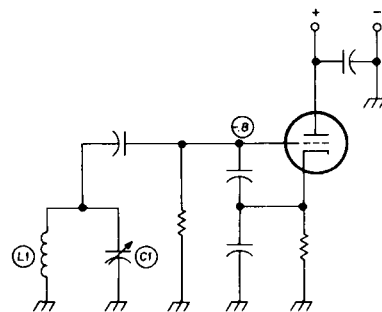

fig. 2. LC-tuned fixed-frequency oscillator. L1, C1 can be short-circuited to check oscillator operation (not recommended for transistor circuits — see text).
4. Place a jumper wire across the crystal or tank circuit. Be certain of the circuit; *know* what current is being shorted and to where it is going. In fig. 2 no damage will result if the tank is shorted to ground; but in at least one version of the Pierce circuit, and in some vfo circuits, this maneuver will cause further damage, especially in transistor circuits. A rule of thumb is: Avoid this method if B+, cathode, emitter, or base voltages share a common terminal with the crystal or tank.